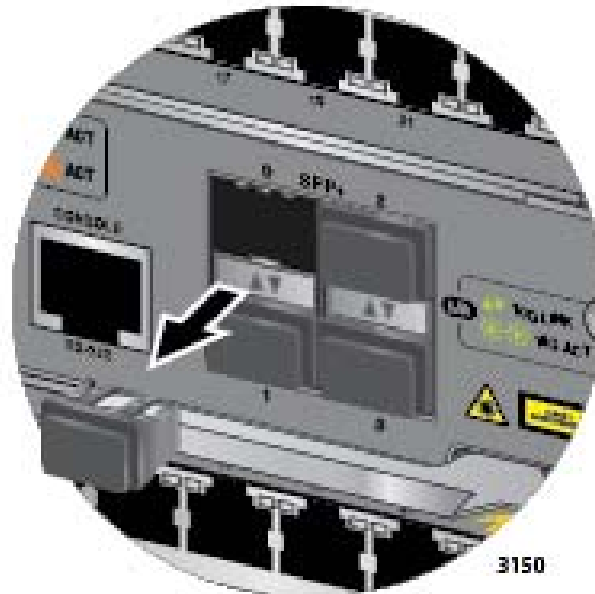

Figure 112. Removing a Dust Cover from a Transceiver Slot in the AT-SBx31CFC960 Controller Fabric Card
1. Remove the dust plug from the transceiver slot chosen for the transceiver, as shown in Figure 112.